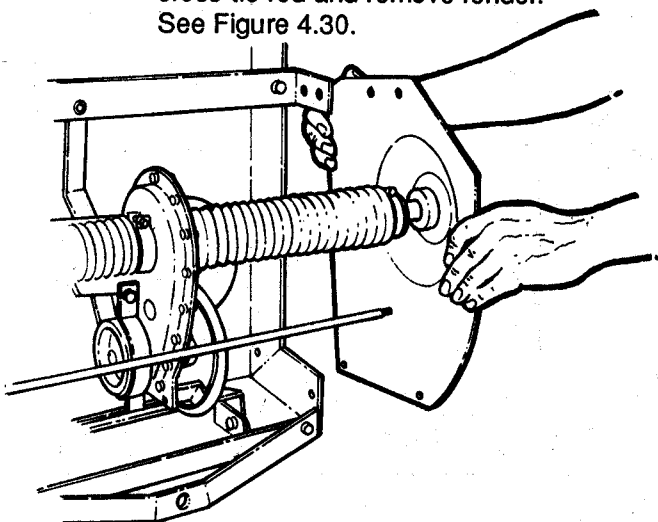

FIGURE 4.30
2. Stand mower on back bumpers and remove L.H. wheel and hub. Disconnect L.H. oil seal boot and cross-tie rod and remove fender. See Figure 4.30.